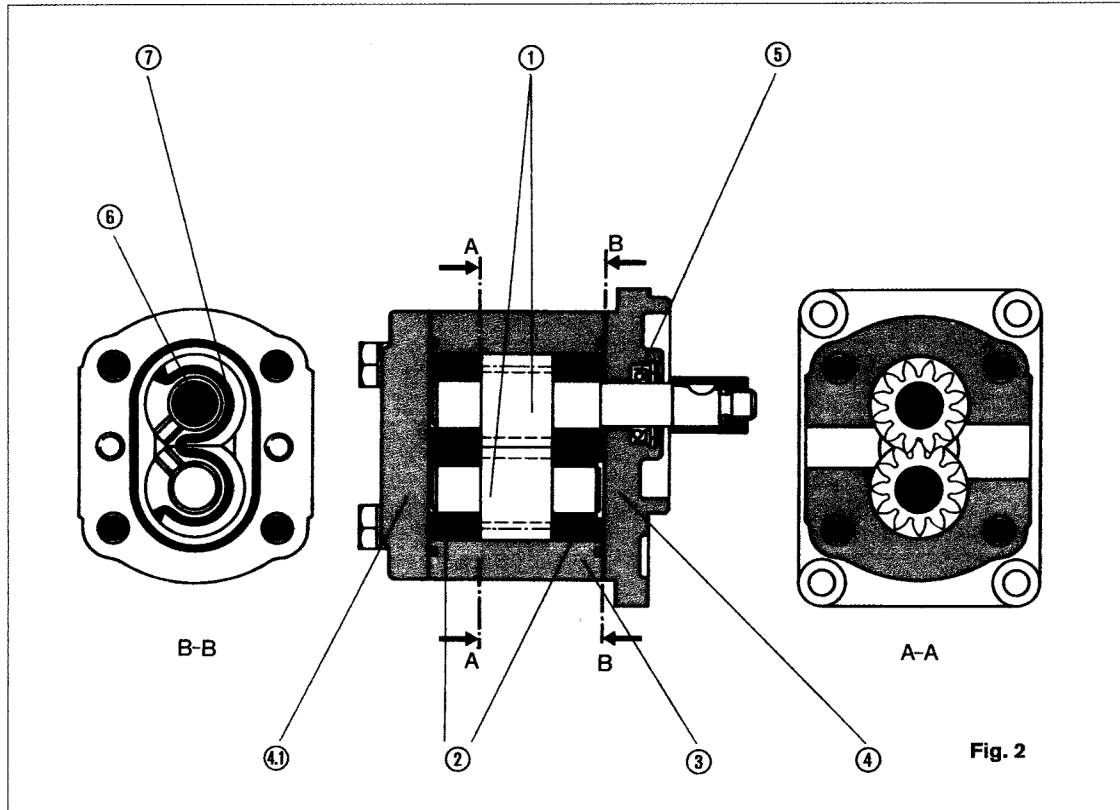

Fig. 2
The pump (see FIG. 2) consists essentially of a pair of gears ① supported in bearings ② and the body ③ with front and rear covers ④ and ④. The drive shaft protrudes from the front cover where it is sealed by the shaft seal ⑤.